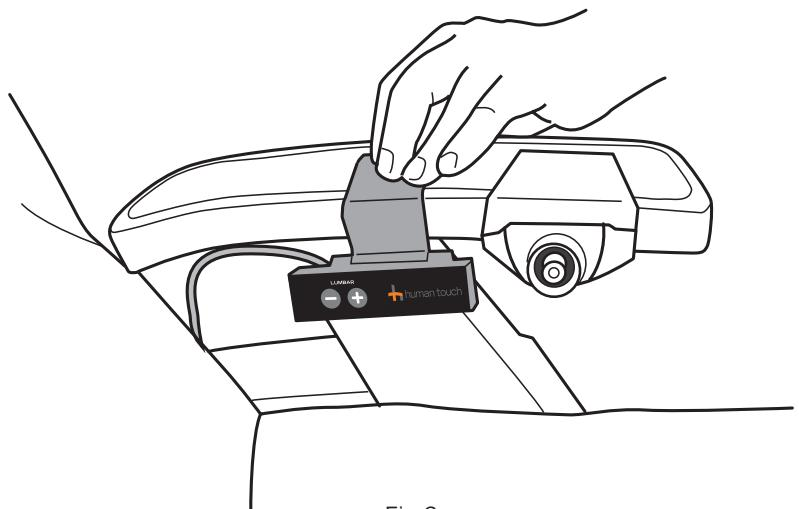

Fig.3
5. Place the control panel into position on the armrest, above the chair arm as shown (Fig.3).